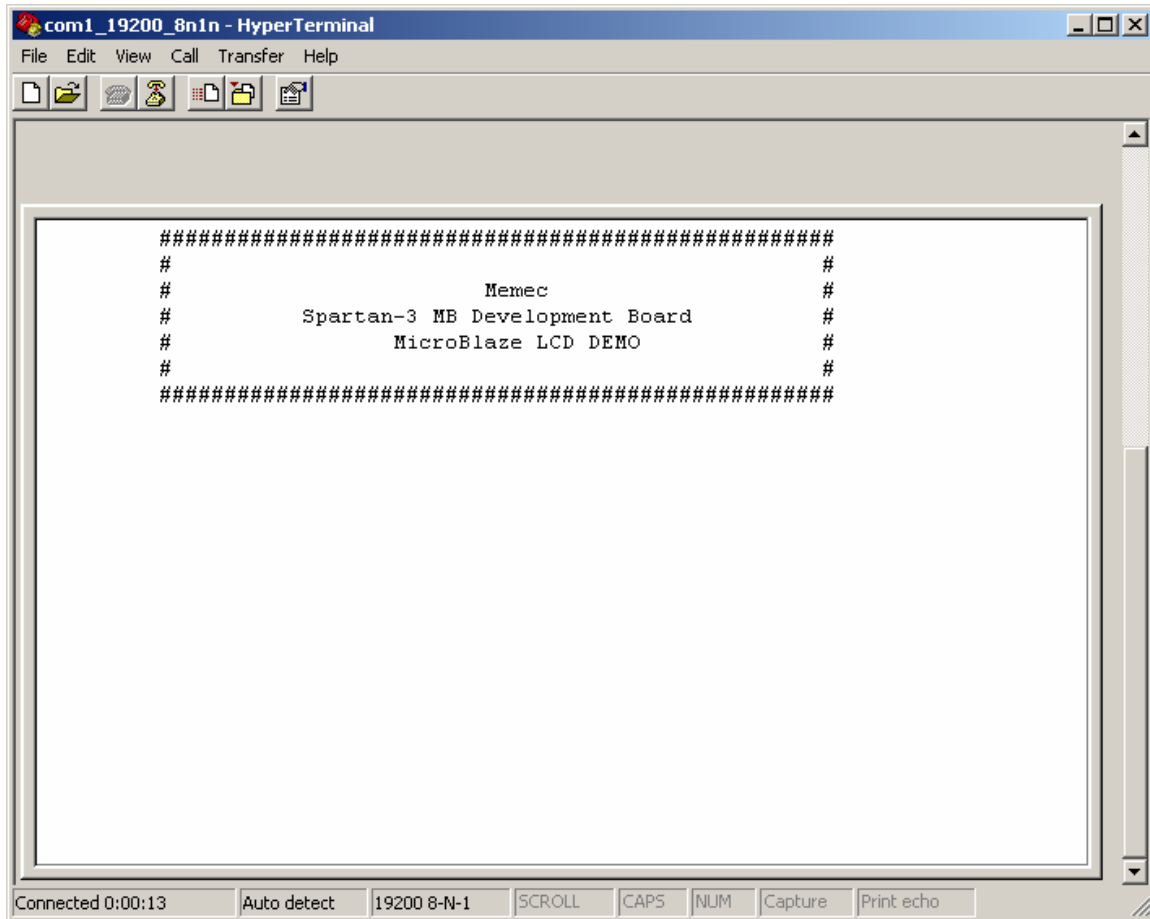

Figure 9 – LED HyperTerminal Results
13. Go to the XPS GUI and download the bitstream into the FPGA (**Device Configuration → Download Bitstream**). Upon completion of the download, the HyperTerminal appears as shown in Figure 9.